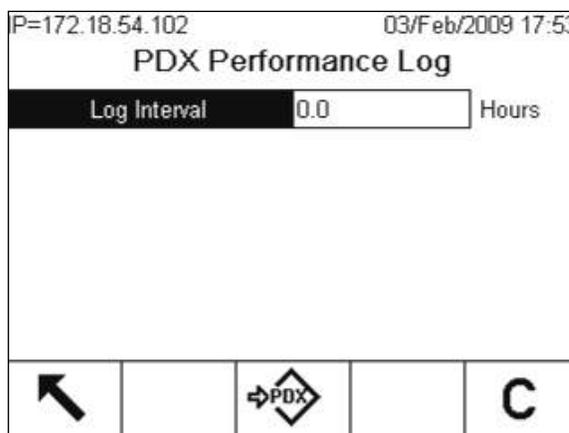

Figure C-43: PDX Performance Log Setup Screen
The PDX Performance Log does not automatically log records by default. To setup the automatic logging, go to the **Maintenance > Configure > PDX Performance Log** setup screen (Figure C-43) and enter an appropriate log interval, between 0.1 and 999.9 hours. A typical value for day-to-day operation is 12, but for diagnostic purposes this interval can be much smaller. A manual record can also be triggered using the PDX PERFORMANCE LOG softkey .
1. Go to the **Maintenance > Configure > PDX Performance Log** setup screen (Figure C-43).